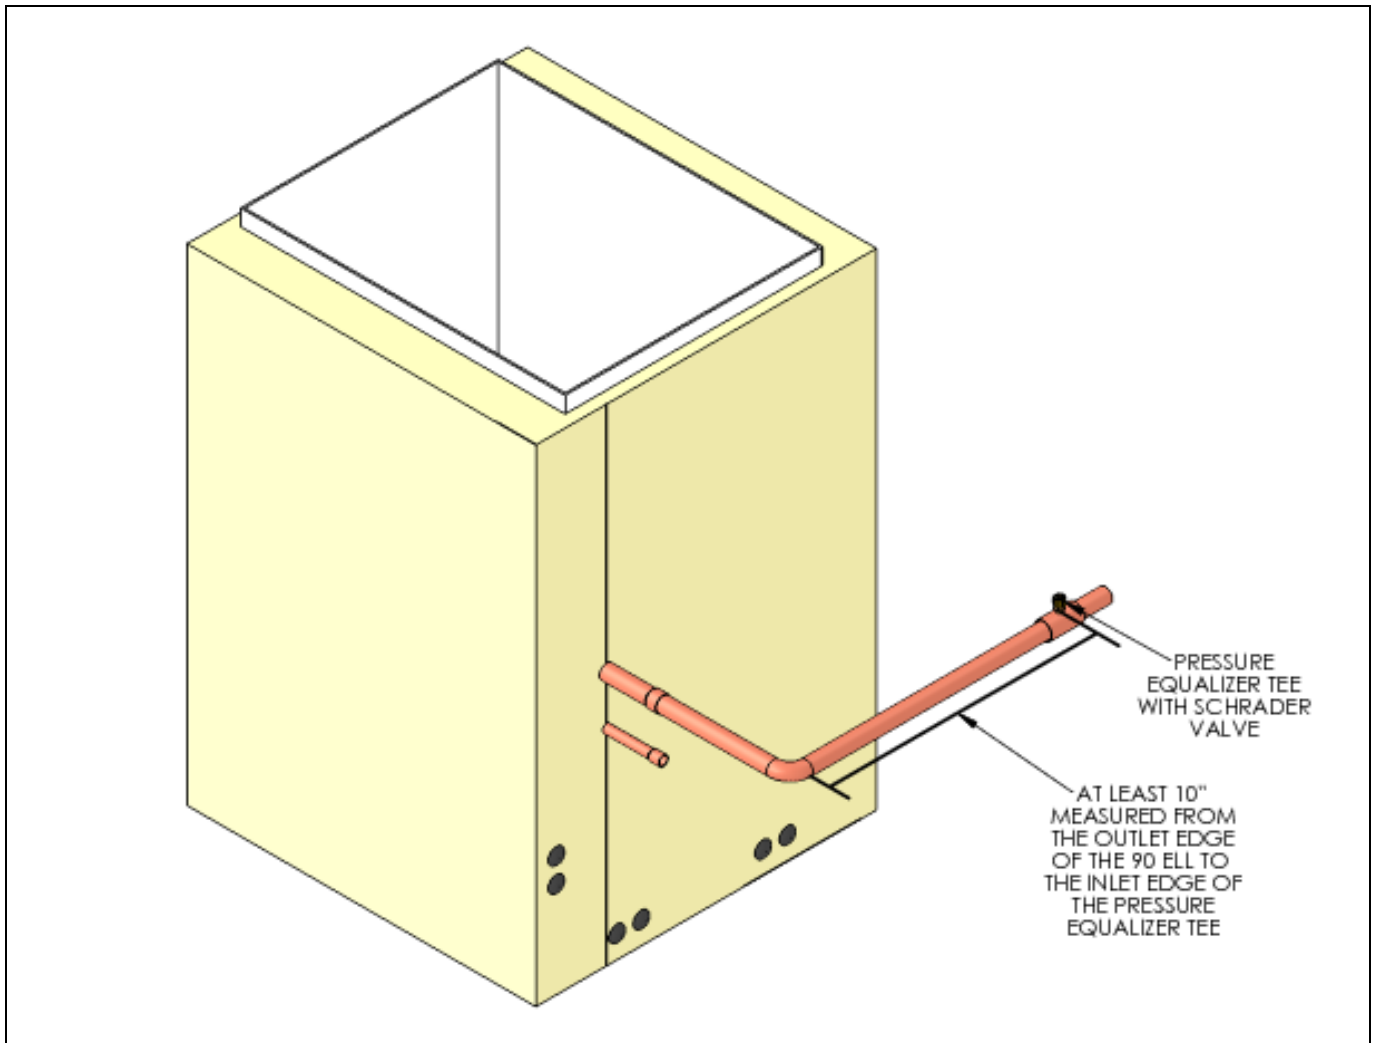

Figure 12. Positioning the Pressure Equalizer Tee
Step 2: Position the Pressure Equalizer Tee on the suction tube at least 10 inches downstream from the 90° ell as shown in Figure 12. Remove the core from Schrader valve on the Tee.